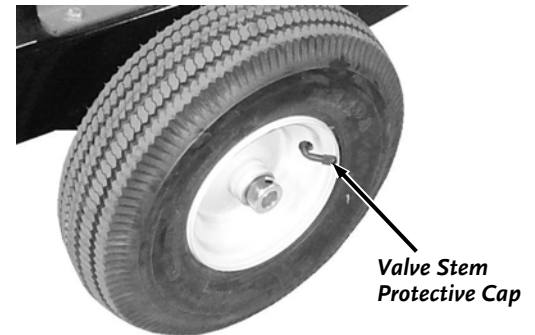

Figure 23: Yard-Tow Model Shown
- Remove the Valve Stem Protective Cap and check the tire pressure with a Tire Pressure Gauge (**Figure 23**).